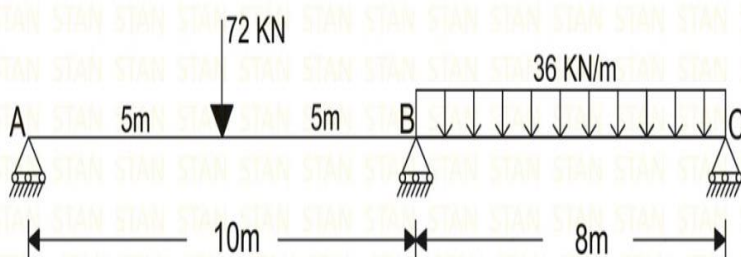

Figure 5
- 6 Analyze the continuous beam shown in figure 5 using Kani's method and draw shear force and bending moment diagrams.